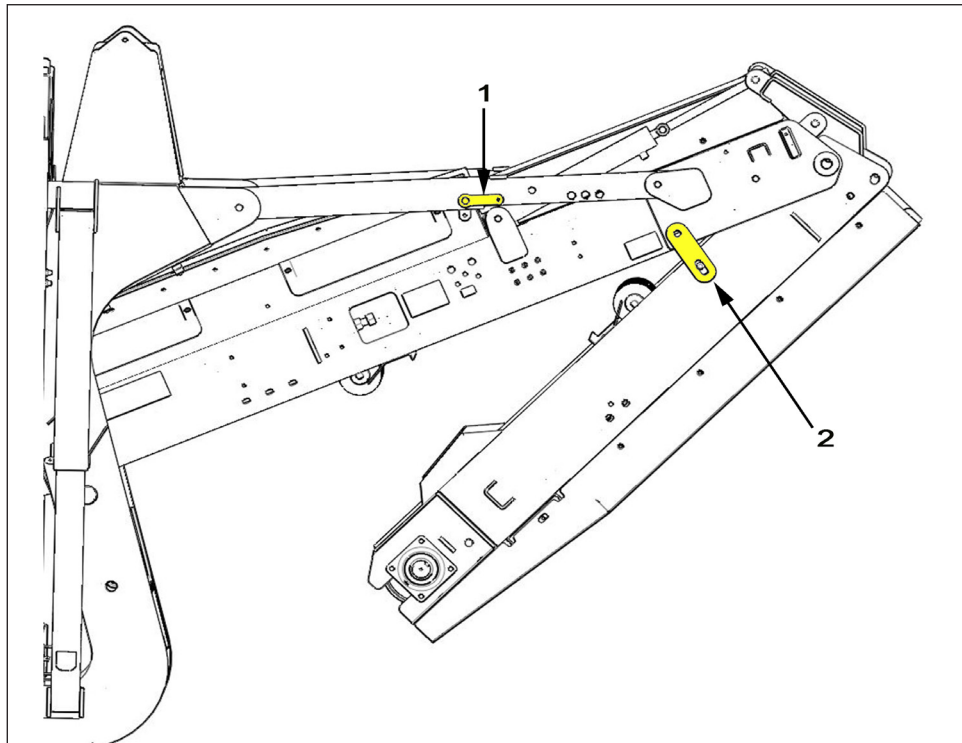

Figure 5.8 - Tail Conveyor Pins Transport Position
4. Refit pins (1) when tail conveyor is at correct transport height, see Figure 5.8.
5. Fit transport stays to tail both side of tail conveyor (2) Figure 5.8.